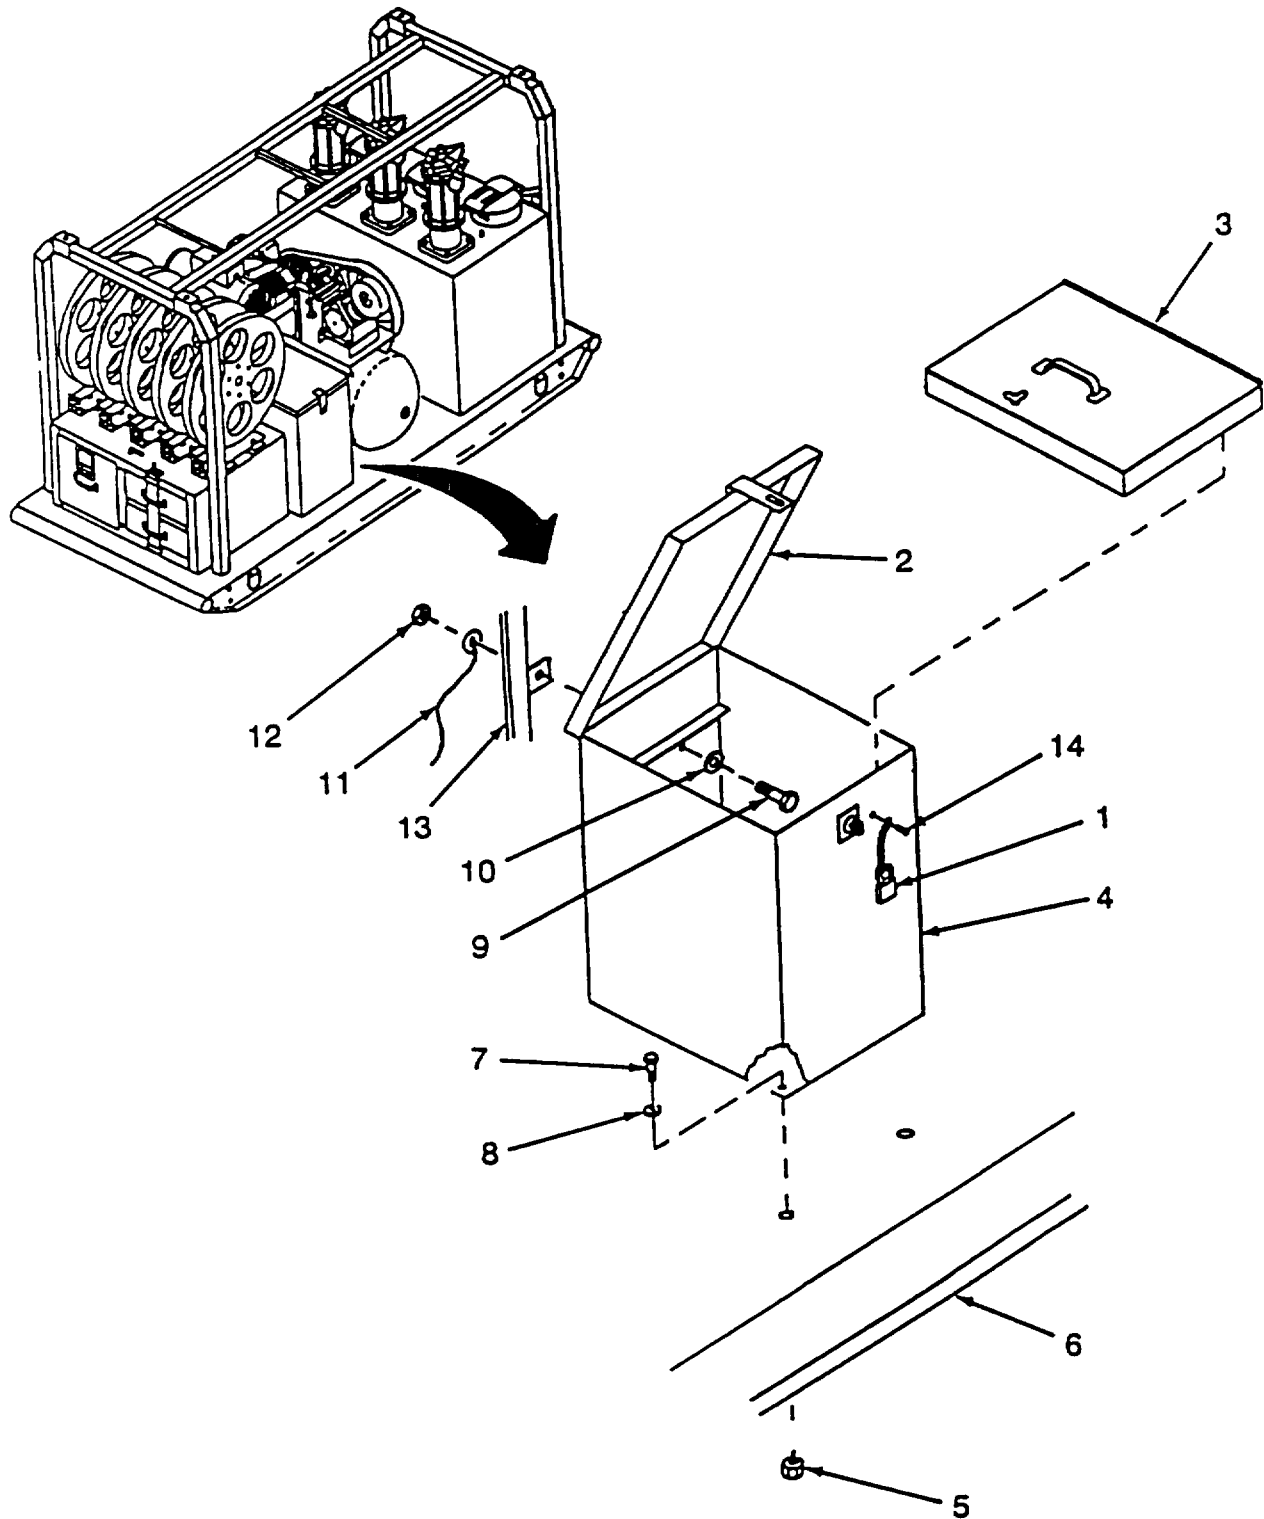

Figure 4-11. Tool Box Assembly
a. Removal. (Refer to Figure 4-11.)
- (1) Remove four nuts (5), from bottom of skid (6) and four bolts (7) and four washers (8) from bottom of tool box assembly(4).
- (2) Remove bolt (9), washer (10) from inside of tool box assembly (4) and remove negative wire (11) and nut (12) from tab on heater stand (13).
- (3) Remove tool box assembly (4) from skid (6).